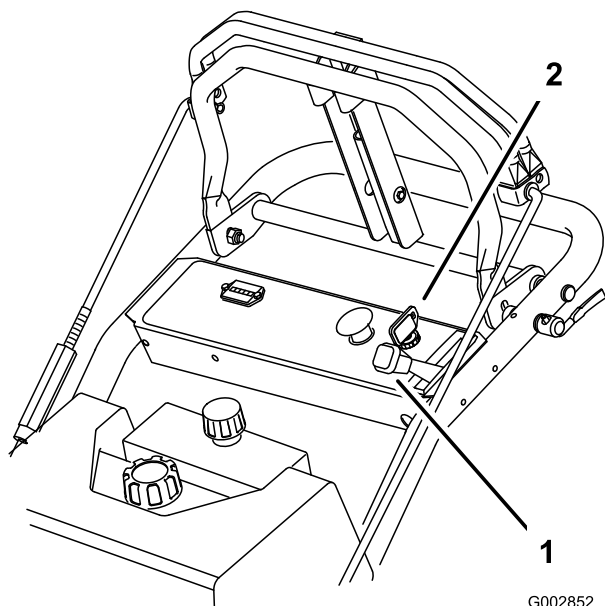

Figure 13
1. Move the throttle lever to the slow position (Figure 13).
3. Turn the ignition key to off (Figure 13).